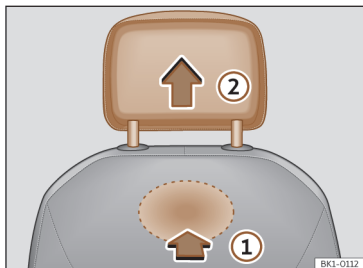

Fig. 102 Front headrest: removal.
- To unlock it, look for the button underneath the headrest and press in the direction of the arrow >>> Fig. 102 ①.
- Remove the headrest in the direction of the arrow ②.